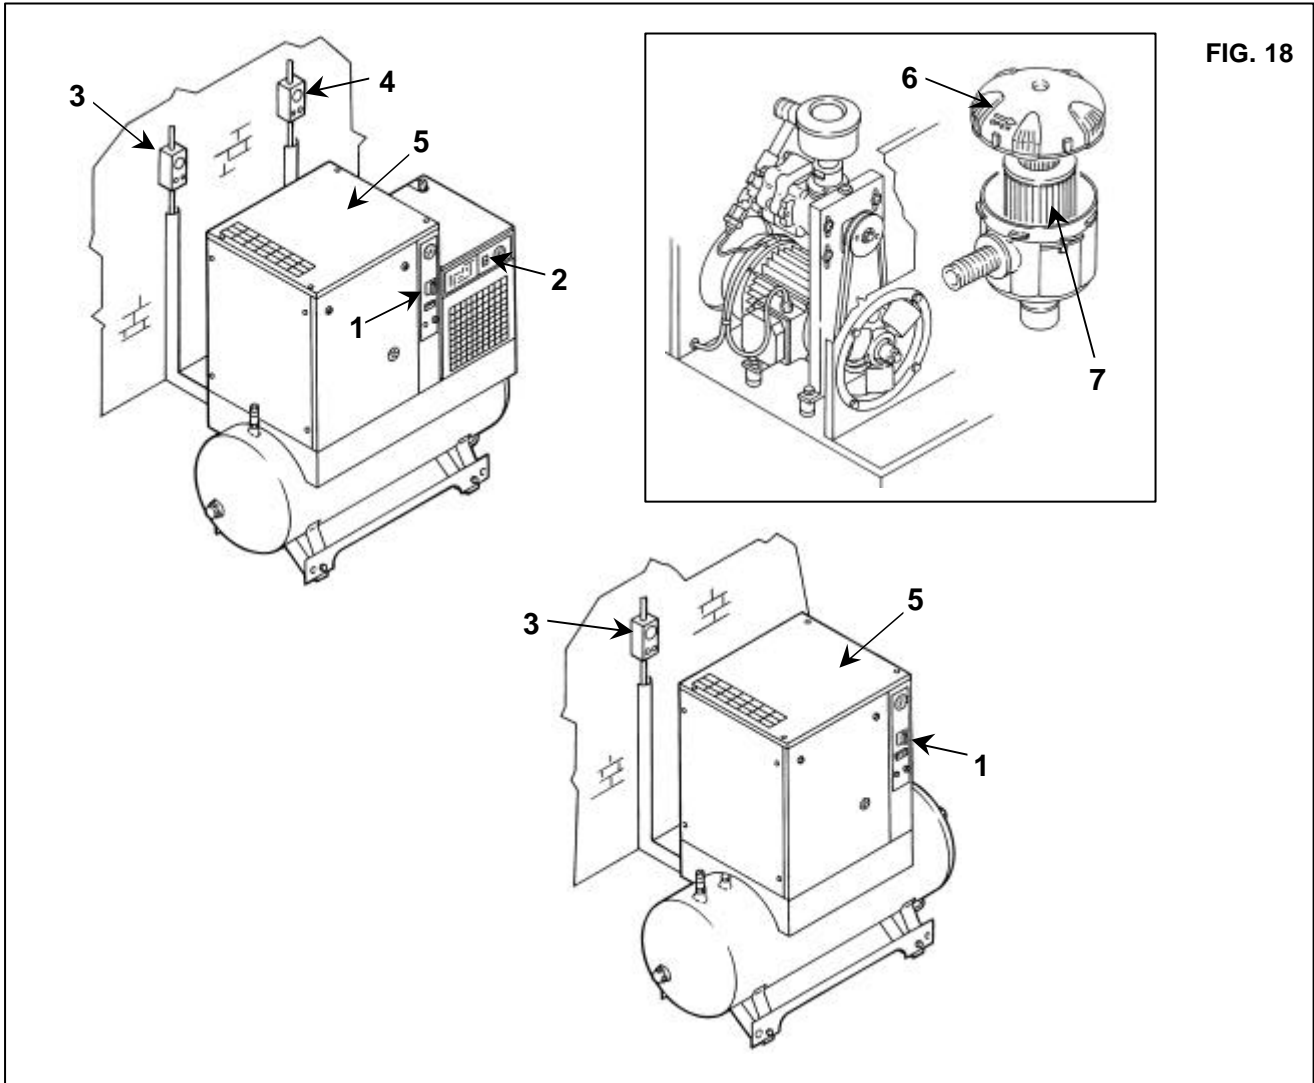

FIG. 18
- Stop the machine, turning in "OFF" position the isolating switch Ref. 1 Fig. 18.
- Press the button switch Rif. 2 Fig. 18 (on the dryer if fitted)
- Turn on the differential supply switch, Ref. 3 (on the screw-compressor) and Ref. 4 (on the dryer if fitted) Fig. 18.
- Remove the fixed protection device (machine cover) Ref. 5 Fig. 18.
- Remove the cover Ref. 6 Fig. 18 (Check the direction of the arrow).
- Remove the filter Ref. 7 Fig. 18.
- Close the fixed protection (machine cover) Ref. 5 Fig. 18 device again, using the appropriate safety screws.